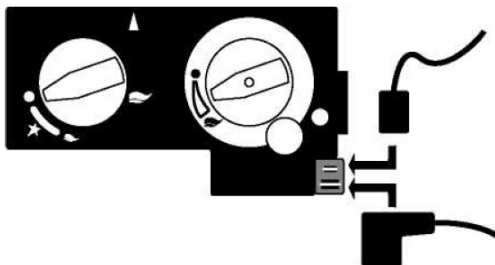

Fig. 20
- 3) Connect the wires to the gas control (see fig.20).
- Chimney connection set part number A9225000 Fig 20 part D.